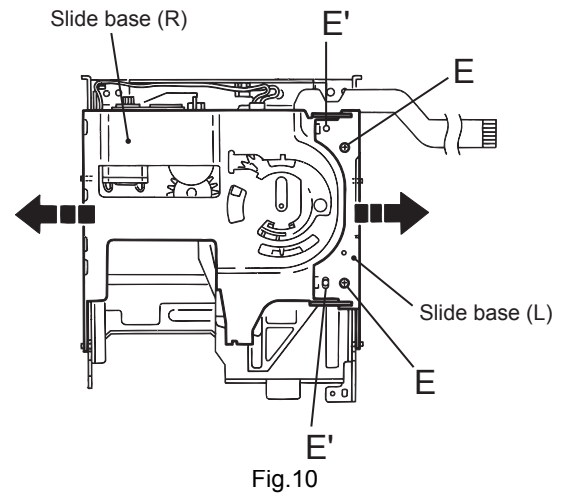

Fig.10
2.4.6.1 Removing the slide base (L) / (R) (See Fig.10)